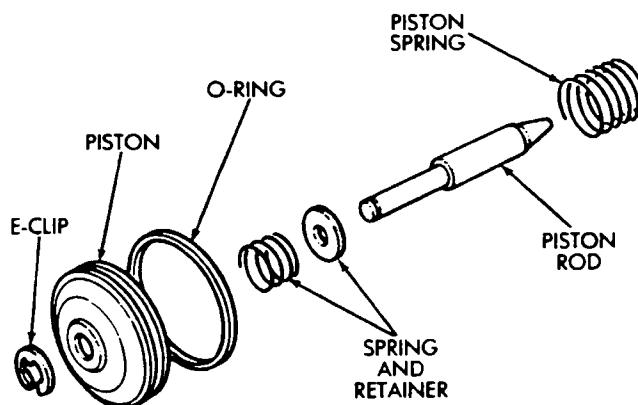

Fig. 32 Assembling Second Coast Brake Piston
(39) Assemble second coast brake piston components (Fig. 32).
(40) Install assembled second coast brake piston in case.